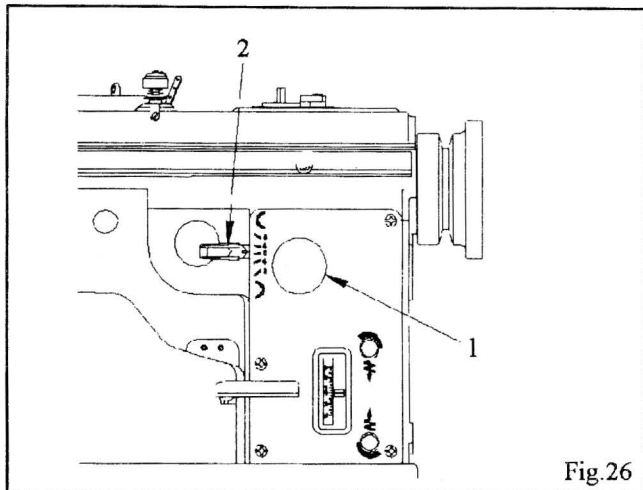

Fig.26
To regulate the width of zigzag stitch, loosen thumb screw(1), Fig. 26, and set lever (2) to desired setting.